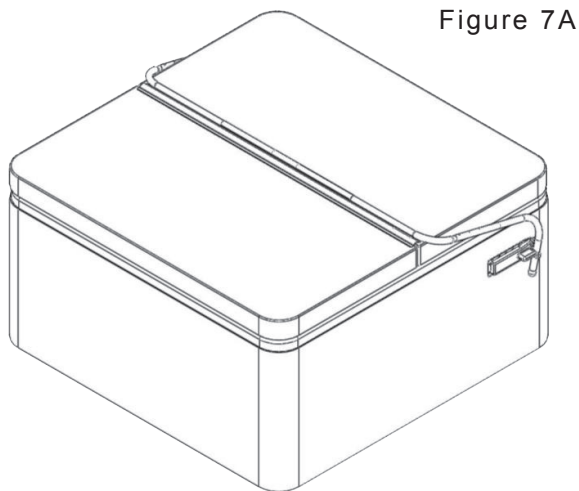
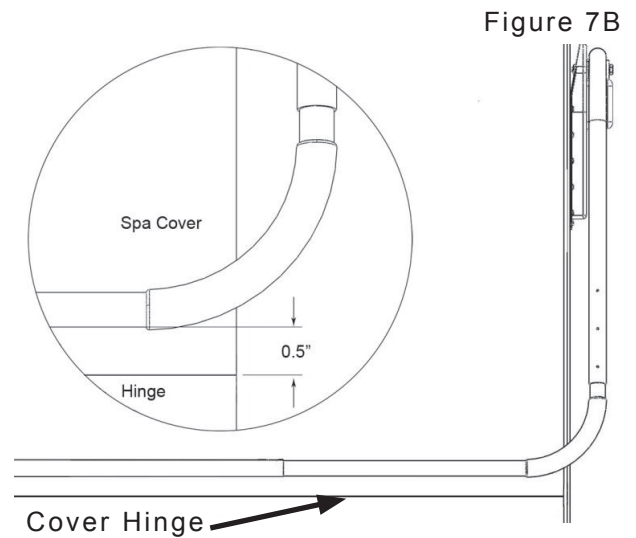

Figure 7A
Figure 7B
8 Lay the Lifter on the spa cover, see *Figure 7A*. Adjust the **Center Coupler Assembly** and the **Support Arms (B)** so that the **Center Coupler Assembly** is lying parallel to the spa cover hinge approximately 1/2" away. See *Figure 7B*.